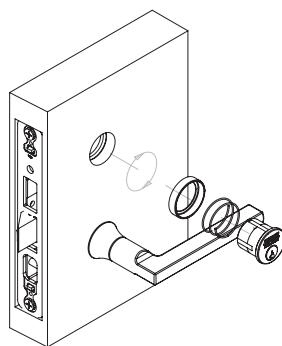

Figure 5
2. Sliding cylinder through spring and collar, thread into lockbody until flush with collar. Verify logo is straight and at top. (Figure 5)